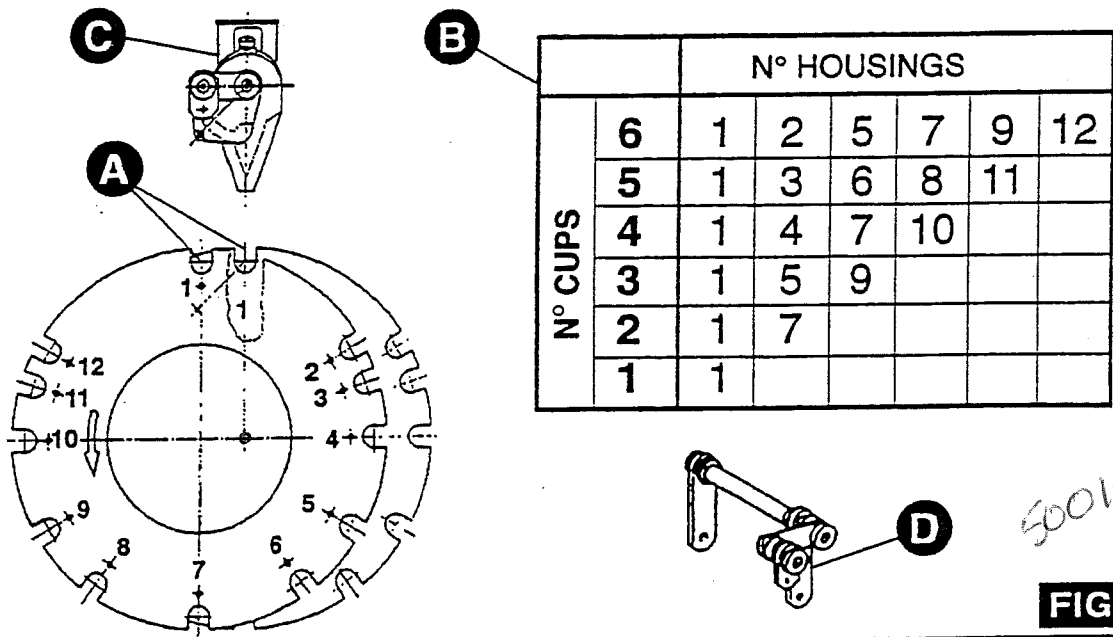

FIG. 18
- use the 3 cup fixing screws (fig. 17.C) to apply or remove cups (fig. 17.D), arranging them in the special housings on the distributor (fig. 18.A).
Position as shown in the table (fig. 18.B).
The cup fixed at reference point $N_{\infty} 1$ must not be removed (fig. 18.C).
Warning: to use the distributor with only 1 or 2 cups installed, $N_{\infty} 2$ phasing spacer shafts (fig. 18.D) must be fixed to the distributor to enable the group to operate correctly.